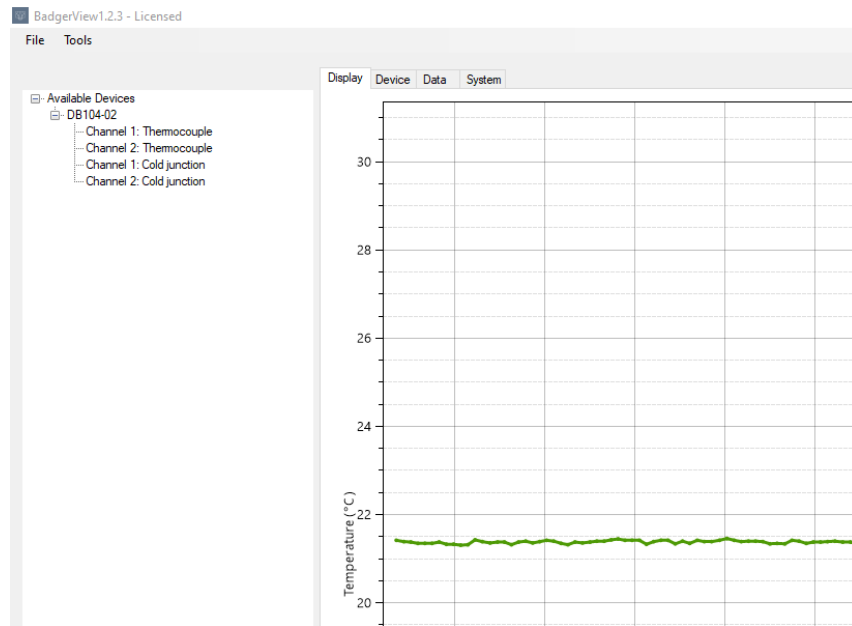

Figure 10: Data channel acquisition
3. BadgerView will request data at the sampling rate set in the System tab. Data acquired will be displayed on the data chart, as shown in Figure 10.